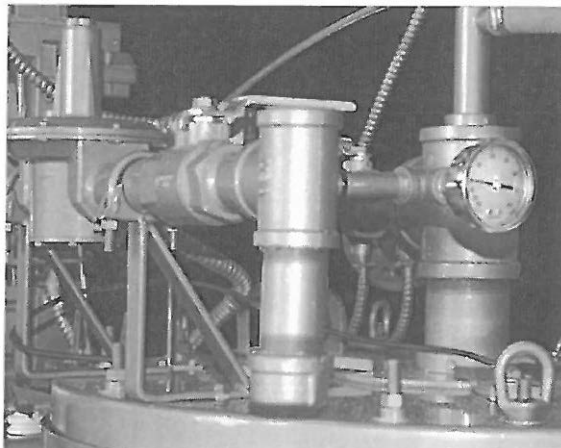

FIGURE 27- GAS TRAIN
1. Check inlet gas pressure at the beginning of the gas train. This should be accomplished by the installation of an appropriately scaled gauge. See Figure 27.